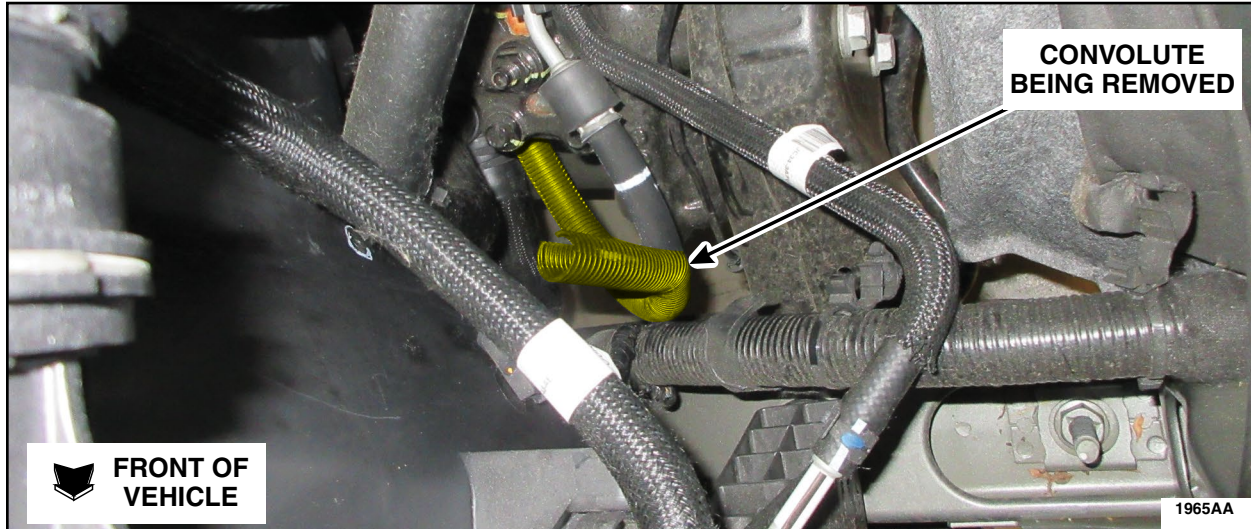

FIGURE 32
1. Remove the convolute from the power steering pump to steering gear pressure hose. See Figure 32.